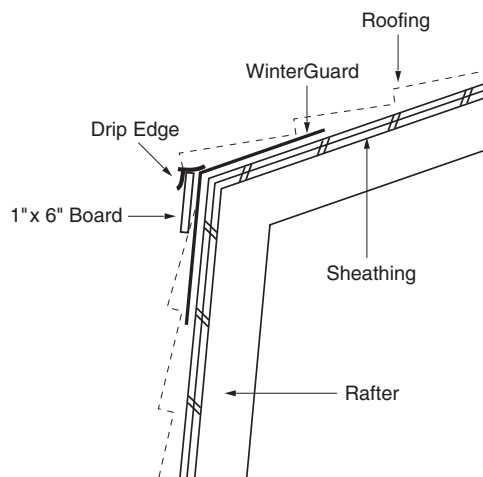

Figure 6-24
2. **DRIP EDGE OR GUTTER:** Apply shingles on the lower roof plane up to the joint and cut off excess shingle material flush to the deck joint. Apply a waterproof type underlayment, such as WinterGuard,™ over the joint in the deck planes to help provide a waterproof barrier. The waterproofing underlayment should be applied directly to the upper deck plane and overlap the shingles on the lower deck plane by about 5". Install a 1" x 6" painted fascia board, (the waterproofing underlayment must be totally covered by the fascia board), at the very top of the lower roof and then install either drip edge or gutter onto the fascia. Apply shingles to the upper plane per standard application technique, letting the starter and first course shingles over hang the drip edge or gutter about ½" to ¾". Refer to *Figure 6-24* below.